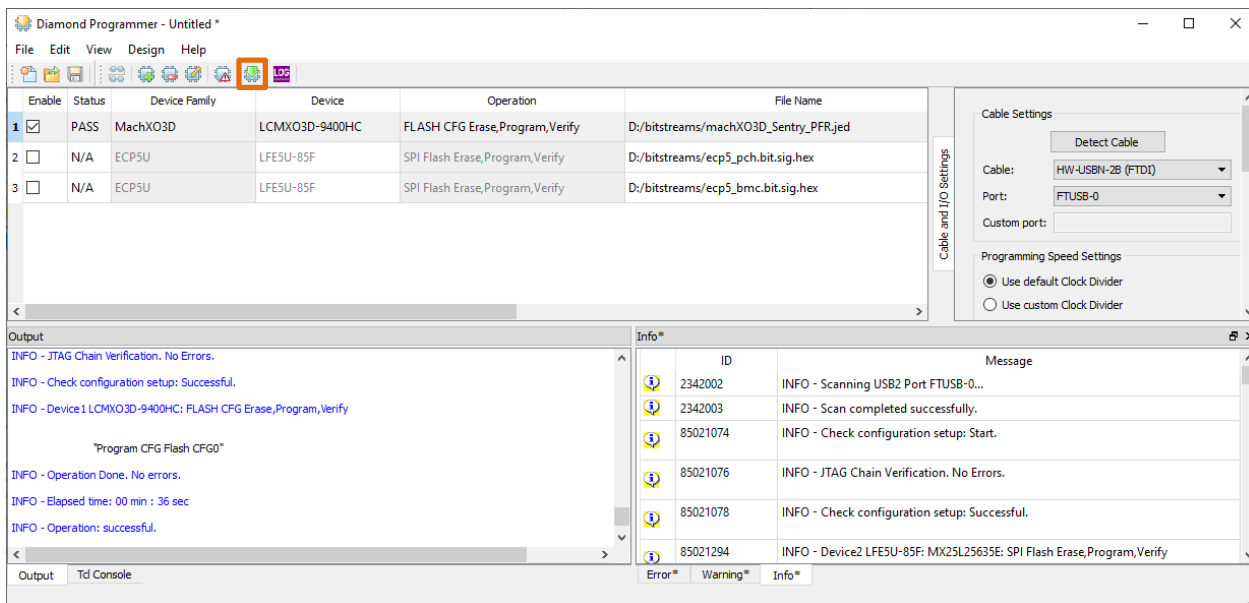

Figure 4.15. Program Operation
4. Program the MachXO3D CFG0 as shown in Figure 4.15.